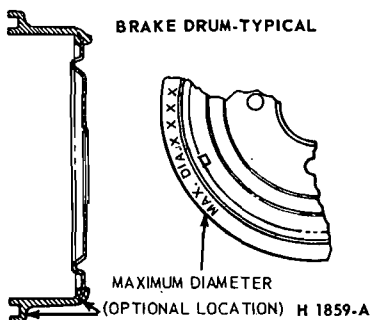

FIG. 9 Brake Drum Maximum Inside Diameter Marking Location
7. Inspect the brake drum and, if necessary, refinish. Brake drum **maximum inside diameter** is shown on each drum (Fig. 9). If the maximum inside diameter shown on the drum is exceeded either by wear or refinishing, the drum must be replaced. Refer to Part 12-02 for refinishing.